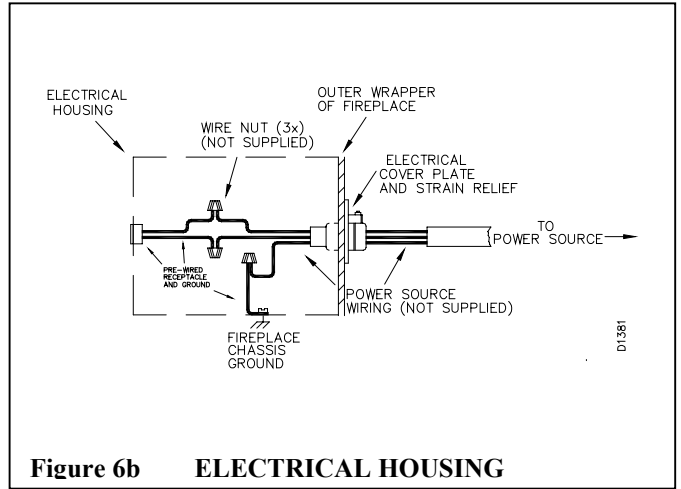

Figure 6b ELECTRICAL HOUSING
- iv. Slide all wiring connections in the electrical housing as shown in figure 6b.